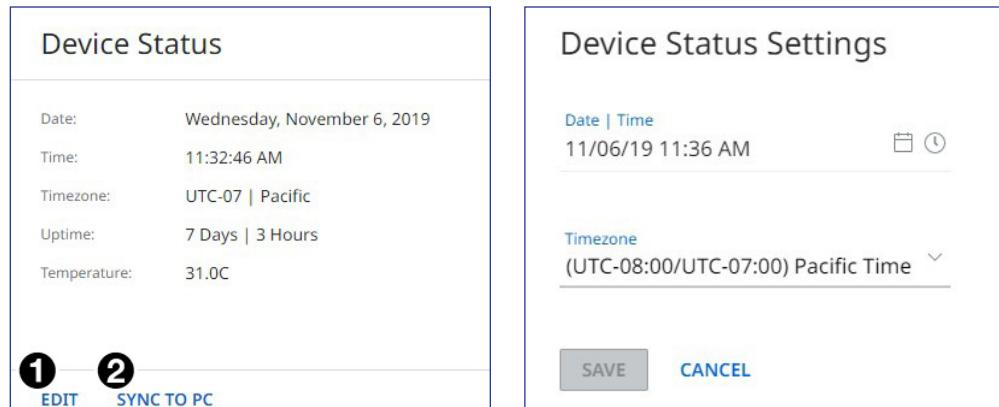

Figure 43. Device Status Panel
1. Click **EDIT** (see figure 43 [left], ①) in the **Device Status** panel. The **Device Status Settings** panel opens to allow edits (right).